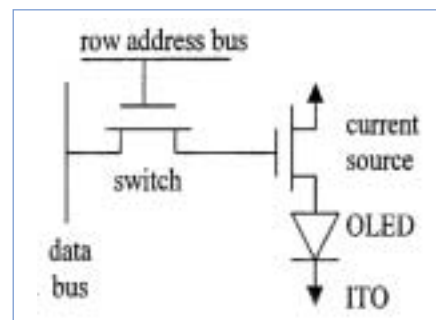

Figure 3. Simplified Active Matrix OLED Display.
When higher resolution, display size, higher contrast and fast response time is required, an active matrix (AM) OLED display is used, as shown in Figure 3.